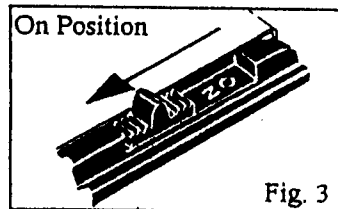

Fig. 3
2. In the downward position (exposing the word "ON"), the recording mechanism, is in operation feeding the strip chart and providing a permanent record of the variable being measured (See Fig. 3).